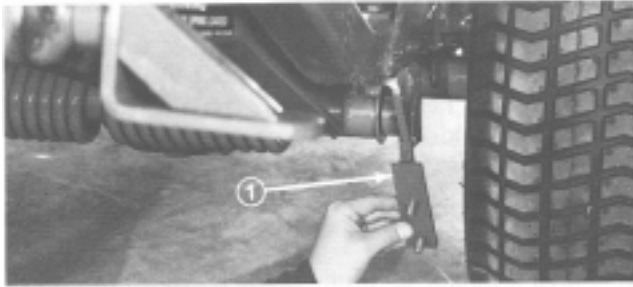

Figure 5
- Position Belly Shield mounting hooks over hub of push arm mounting brackets (Fig. 5).